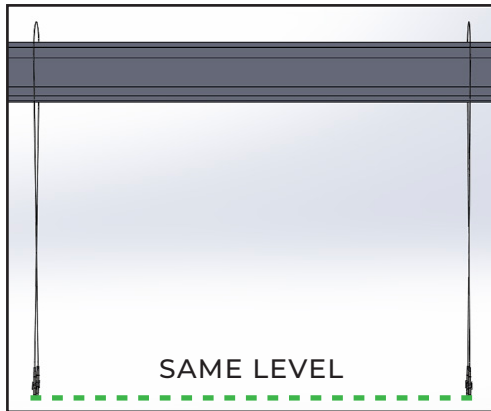
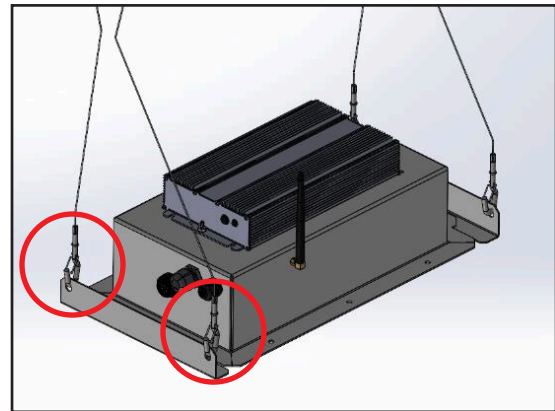

FIG. 3
FIG. 4
4. After leveling the four hanging cables (FIG. 3) attach hooks into mounting rings (FIG. 4).
5. Adjust until luminaire is leveled in both directions before moving to electrical installation (FIG. 4).